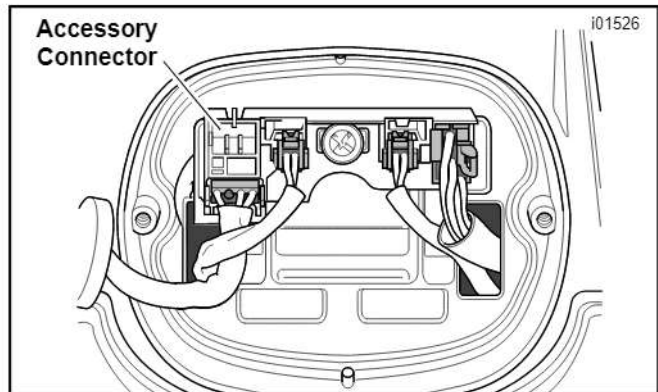

Figure 3. Connecting the License Plate Screws
See Figure 3. Plug the socket housing (11) into the Accessory connector at the upper left of the tail lamp circuit board. Route the red and black wires through the left-side opening in the tail lamp base.